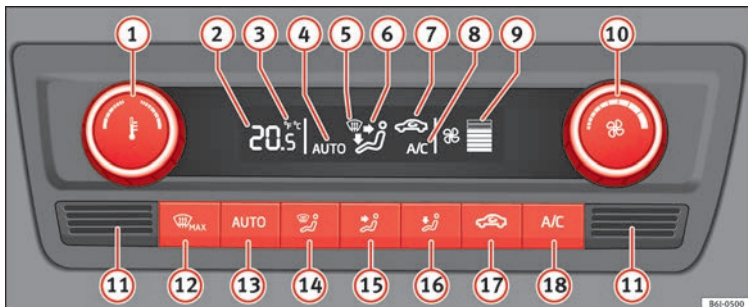

Fig. 167 Climatronic: controls.
- **A/C** (18) » Fig. 167 switched on.
The corresponding function will be switched on when a button is pressed, turning on the air conditioning if it was switched off, with the exception of button (17) » Fig. 167 (recirculation).
- Turn control (10) to the left until the segments of column (9) » Fig. 167 switch off.
- Press the **AUTO** button **13** »» Fig. 167.
Keep the **AUTO** and **A/C** »» Fig. 167 buttons held down for **2 seconds** at the same time. The data is displayed on the screen in the units required.
- The interior temperature sensor **11** »» Fig. 167 is at the bottom. Do not cover it with stickers or the like, as this could have a negative effect on Climatronic operations.
- Press the **AUTO** button **13** »» Fig. 167 and **AUTO** displayed on the screen.
- When you switch on the ignition, control **1** »» Fig. 167 can be used to set the required interior temperature.
- Press button **17** »» Fig. 167 and the  symbol is displayed on the screen.
- Press button **17** »» Fig. 167 and the  symbol disappears from the screen.
- Turn control    **Fig. 167** counter-clockwise (to lower the speed) or clockwise (to increase the speed).
- Press the button    **Fig. 167.**
- Press button    **Fig. 167** several times or press the  button.